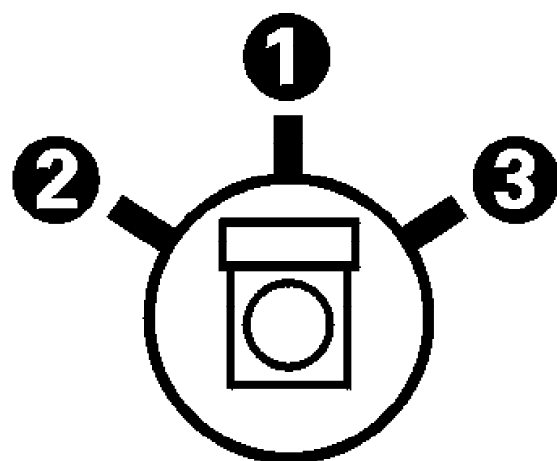
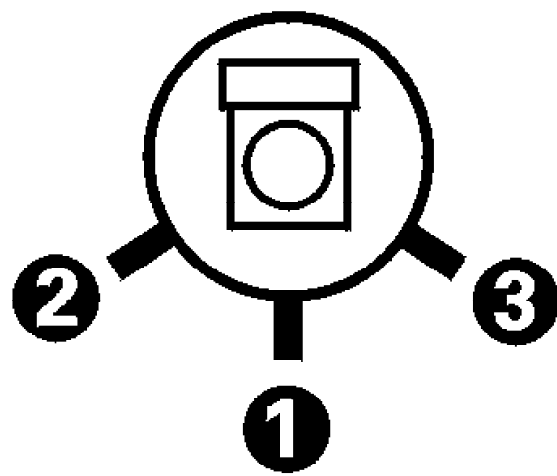

Fig. 3b
Fig. 4b
4. Tilt the yoke to the left and right to find the point of best possible convergence of the red and blue lines at the edges, top and bottom of the screen as shown in Figure 6. When the correct position is located, place wedges two and three as shown in Figure 3b or Figure 4b.